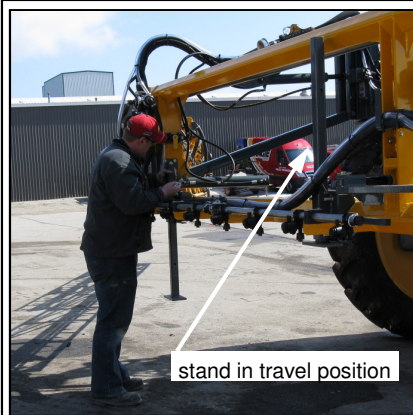

FIG. 4.63-2
8. Put the boom stands in the "travel position".	63; FIGURE 4.63-2